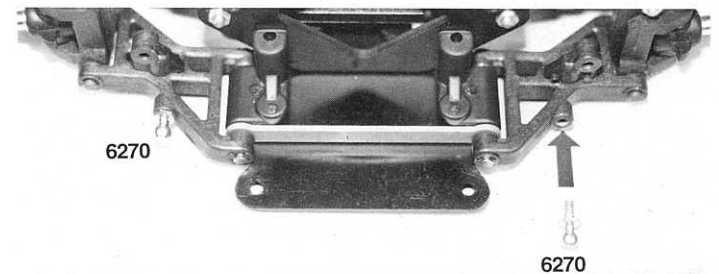

Fig. 34
□ **Fig. 34** Now open bag #8-3 and remove the two #6270 short ball ends. If you look at the front of the car you will see a hole on the leading edge of each of the front arms. Thread one of the short ball ends into each of the two holes. Because of the shape of the arm you may not be able to fully install the ball ends with a nut driver or socket. Use your #8416 shock/turn-buckle wrench or needlenose pliers to finish the job.